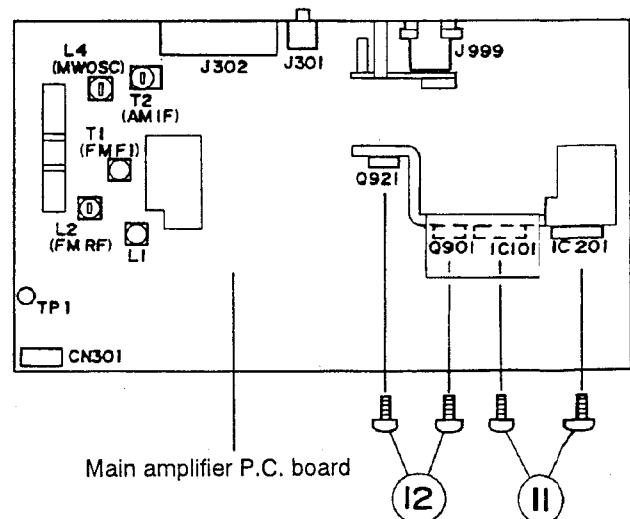

Fig. 8
■ Heat sink (refer to Fig. 8)
1. Remove the two screws ⑪ retaining the IC101 and IC201 from the heat sink.
2. Remove the two screws ⑫ retaining the transistor (Q901 and Q921)from the heat sink.